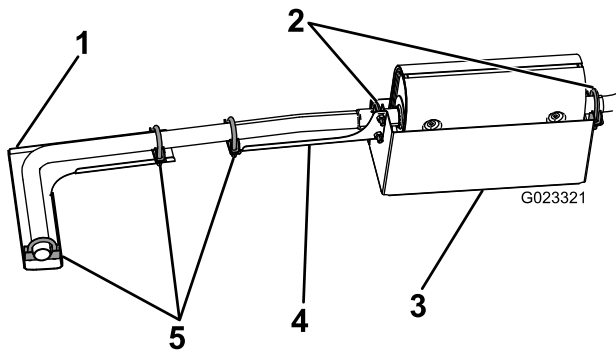

Figure 2
1. Using the existing muffler clamp, attach the front of the muffler shield to the muffler (Figure 2).
2. Using the existing muffler clamp, attach the rear of the muffler shield and the front of the tailpipe shield to the muffler (Figure 2).
4. Attach a muffler clamp to the end of the L-shield and slide the clamp over the end of the tailpipe (Figure 2).